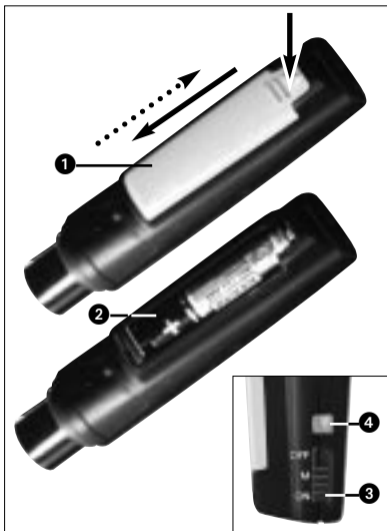

Fig. 2: Inserting the battery.
### 3.1 Inserting/Replacing and Testing the Battery (refer to fig. 2)
4. Insert the supplied or new battery (2) into the battery compartment as shown in fig. 2.
5. Set the ON/MUTE/OFF switch (3) to ON.